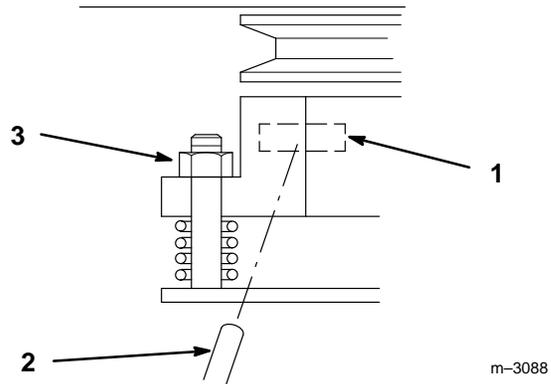

Figure 33
The electric clutch, mounted on the engine, has three (3) adjustment nuts that all must be adjusted the same (Fig. 33).
1. Insert a 0.010 inch (.25 mm) feeler gauge into the slot, between the clutch disc and magnet (Fig. 33).